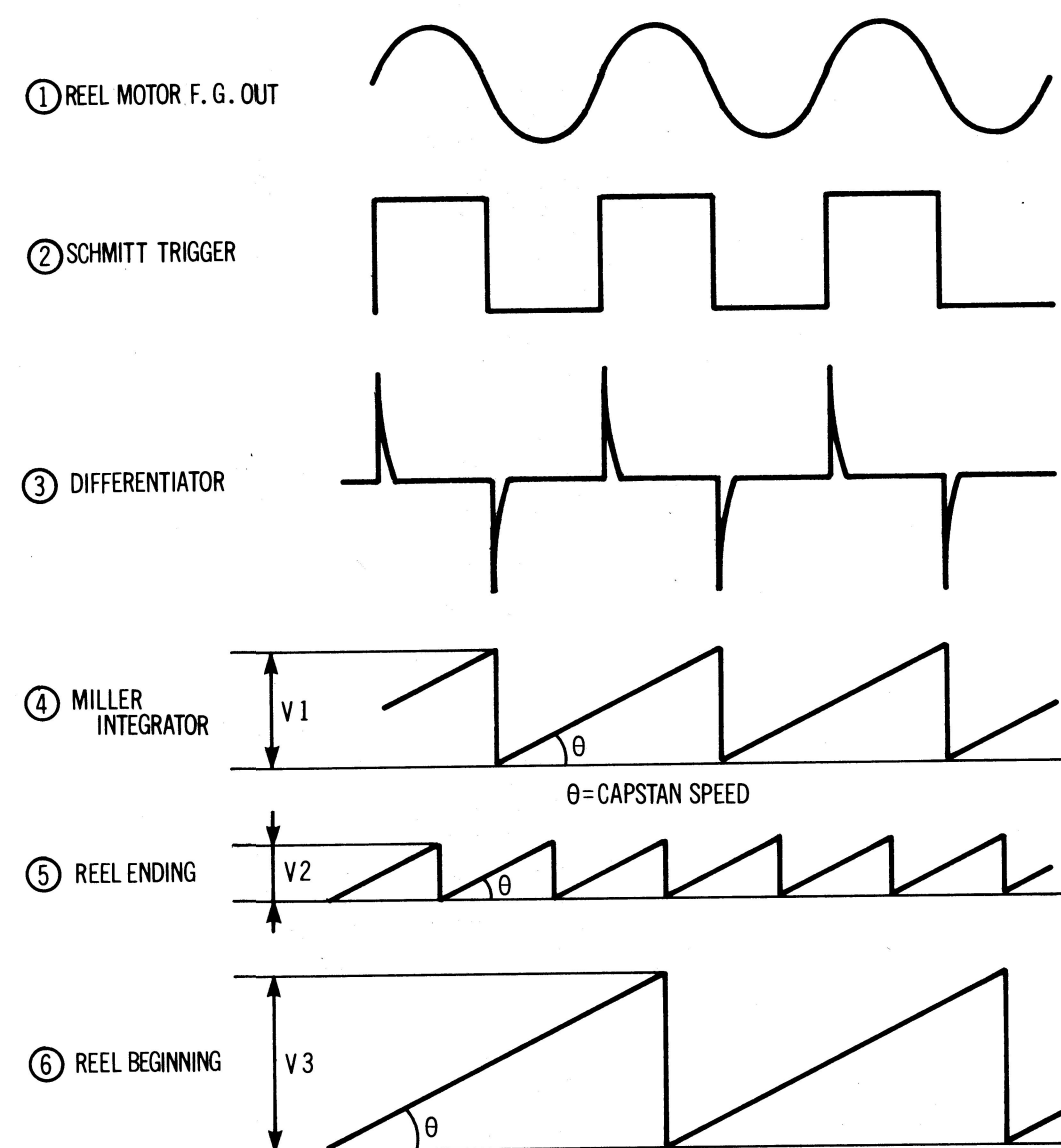

Figure 2-190
The reel motor generates an F.G. signal which is converted to a square wave by a schmitt trigger. This square wave then is differentiated as shown in Figure 2-190 ③. This pulse serves as the reset for a trapezoid ramp generator circuit. The input which forms the sawtooth signal is a DC voltage is formed from the Capstan FG signal.